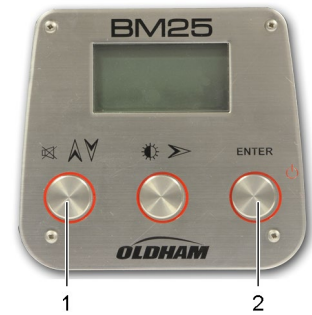

Figure 14: press 1 and 2 to select the calibration gas
- Use the Acquit button (Figure 14: press 1 and 2 to select the calibration gas ref. 1) to scroll down the list of gas. Thirty-one (31) combustible gases are available in the library. Choose *Other* to select a gas for your specific needs.
- Press the *Enter* button (ref. 2) to confirm your choice.